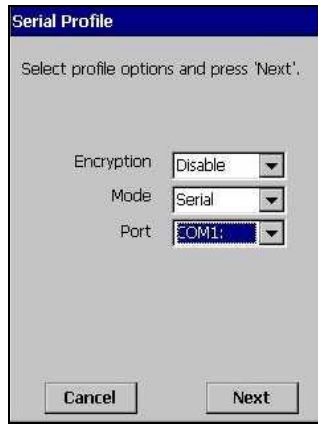

Fig 3-10
7. Click “Serial Port”, Fig 3-10 will shows, choose options as fig 3-10, click **Next**